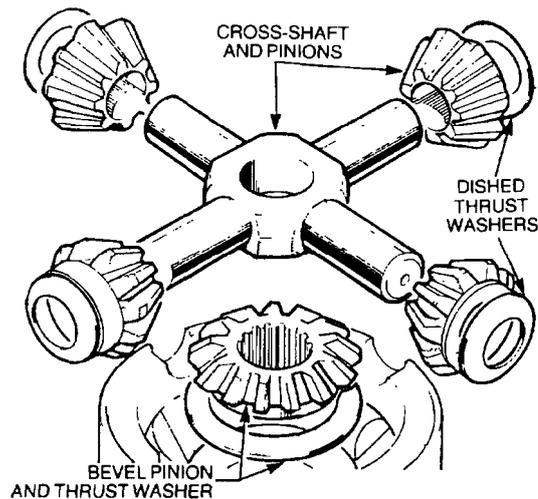

Figure 212 Cross-shaft Disassembly
- f. Remove the cross-shaft assembly. Remove the dished thrust washers and pinions from the cross-shaft. Lift out the remaining bevel pinion and thrust washer and discard the thrust washers (Figure 212).